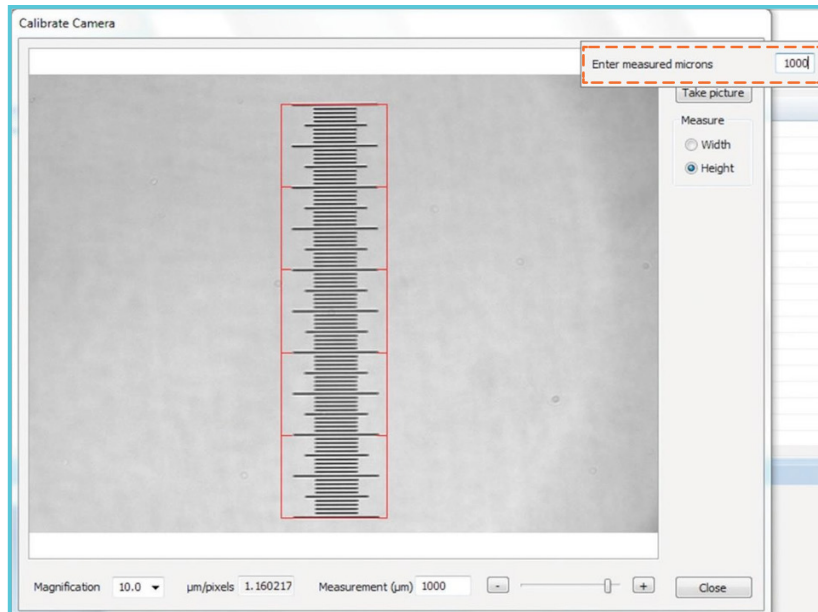

Figure 2.8 Enter measured microns
5. Click on Calibrate and fill in the number of μm the red box covers into the box Enter measured microns. Press the ENTER to save the calibration of the camera; in this case it is 1000 μm (see figure 2.8).